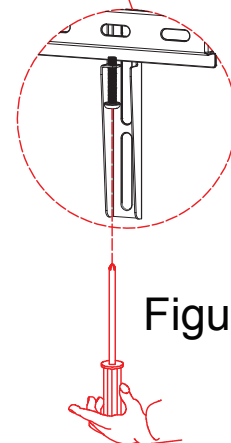

Figure 4b
2. Tighten the safety screw on the bottom of each Bracket (2) using a screwdriver. This will secure the TV to the mount arm on the Wall Plate (1). Fig 4b